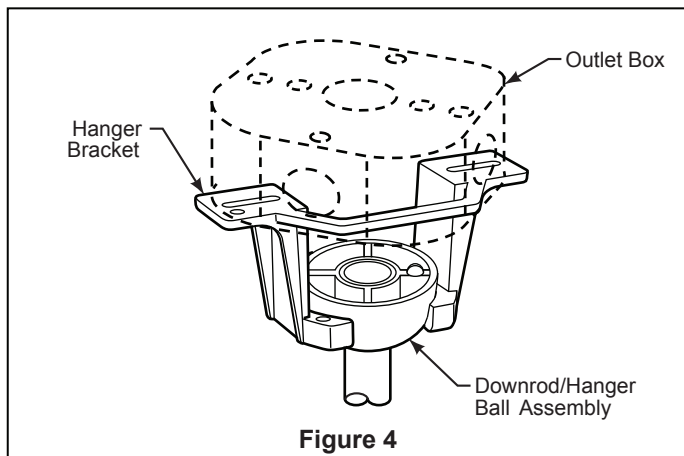

Figure 4
4. Install the clevis pin, hairpin clip and tighten set screws. The clevis pin and hair pin clip must be properly installed to prevent the set screws from working loose. (Figure 4)
- ☐ 2. Carefully lift the fan and seat the downrod/hanger ball assembly on the hanger bracket that was just attached to the outlet box. Be sure the groove in the ball is lined up with tab on the hanger bracket. (Figure 4)
-  : Controls light-Infinite light levels are available by holding the light on/off button (Figure 4).